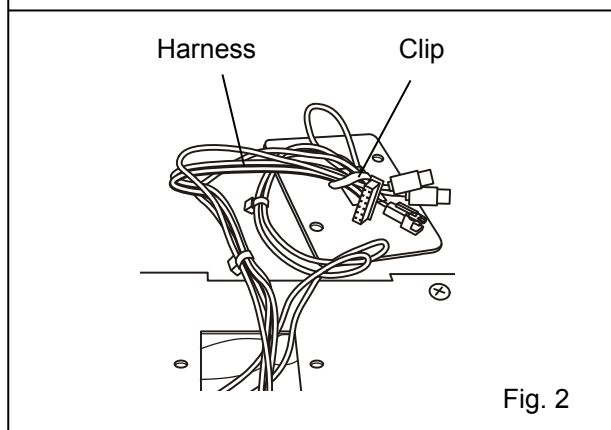

Fig. 2
2. Release the harnesses from the clip fixed to the back side of the top cover. [Fig. 2]